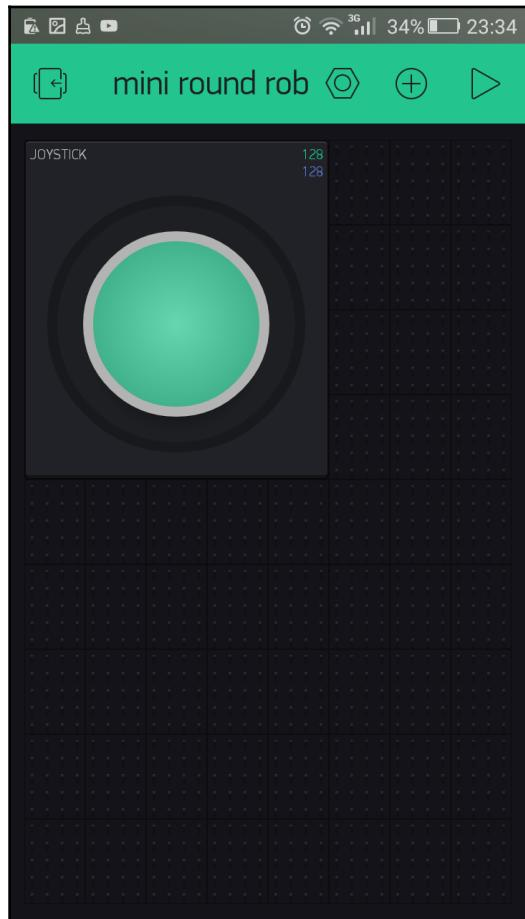

Figure 2.25: Joystick widget in the design view
7. The joystick widget has been added to the design view (*Figure 2.25*). Note that the x and y coordinates for the center are 128, 128: